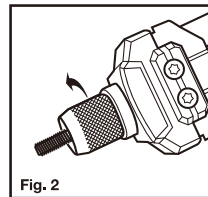

Fig. 2
3. Remove sleeve nut by unthreading anticlockwise (see Fig.2)